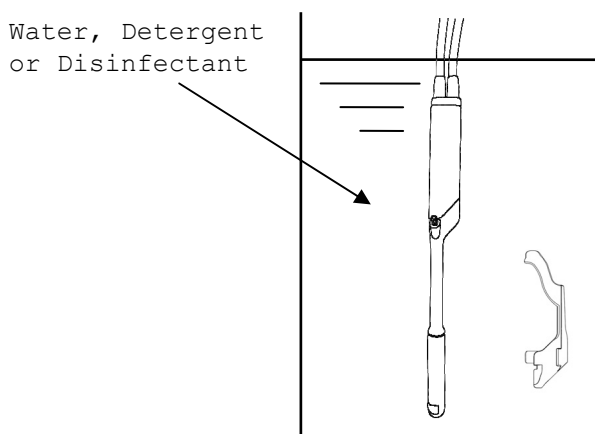

Fig.10 Immersion of the probe and the Magnetic sensor attachment.
- 2) Immerse the immersible part of the probe without connector into the diluted detergent solution (see Figure 10). Wipe the immersible part of the probe under the surface of the detergent solution with a soft cloth to remove all visible soil.
- 5) Rinse the immersible part of the probe with running tap water for 1 minute. (alternatively: immerse the immersible part of the probe in a tray filled with deionized water/tap water (see Fig.10) for 5 min.)
- 4) Rinse the Magnetic sensor attachment with running tap water for 1 minute. (alternatively: immerse it in a tray filled with deionized water/tap water (see Fig.10) for 5 min.)
- 3) Immerse the immersible part of the probe into the disinfectant (see Fig. 10). Set a clock to insure the recommended contact time which is 5 minutes.
- 4) Rinse the immersible part of the probe with deionized water for 1 minute. (alternatively: immerse the immersible part of the probe in a tray filled with deionized water (see Fig.10) for 5 min.)
- 2) Immerse the Magnetic sensor attachment into the disinfectant (see Fig. 10). Set a clock to insure the recommended contact time which is 5 minutes.
- 3) Rinse the Magnetic sensor attachment with deionized water for 1 minute. (alternatively: immerse it in a tray filled with deionized water (see Fig.10) for 5 min.)
- 4) Rinse the parts of the EZU-PA3U with running tap water for 1 minute. (alternatively: immerse them in a tray filled with deionized water/tap water (see Fig.10) for 5 min.)